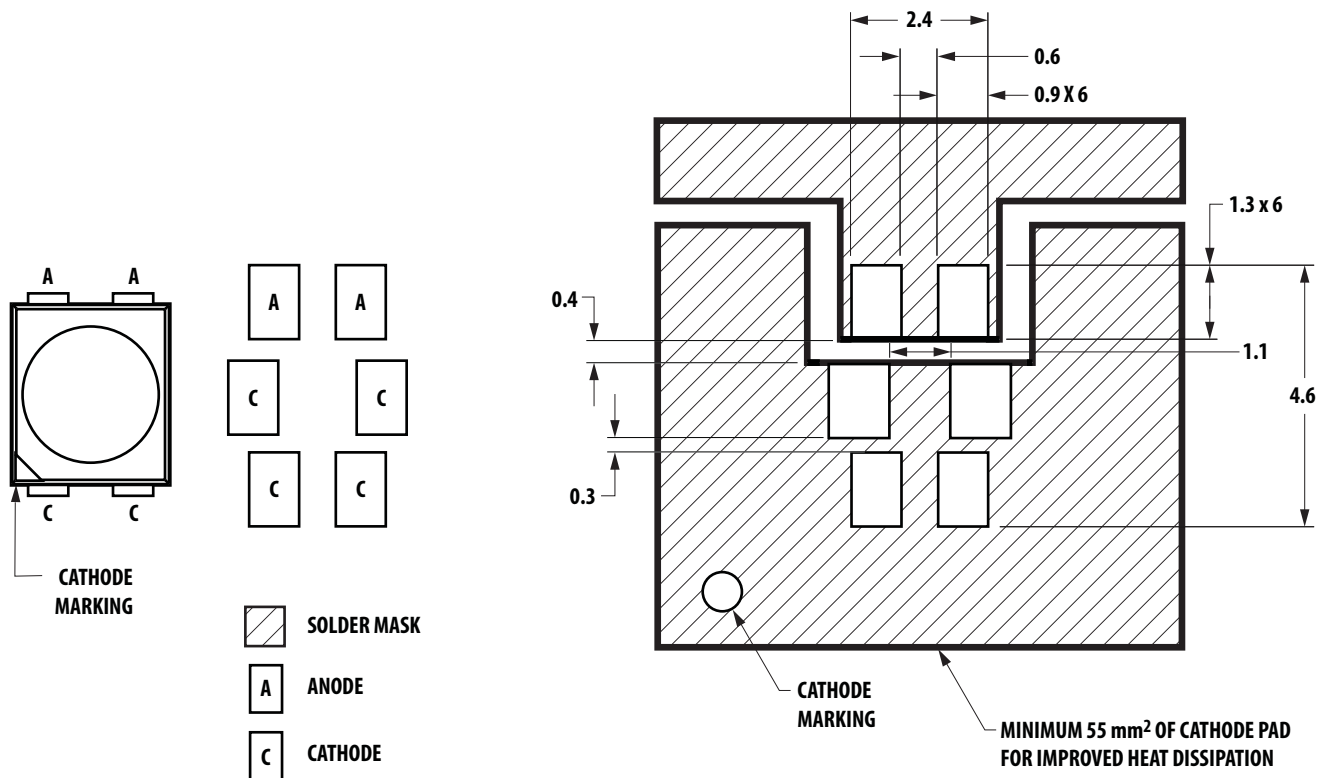

Figure 13. Recommended Soldering Pad Pattern
2. Lead polarity as shown in figure 13.